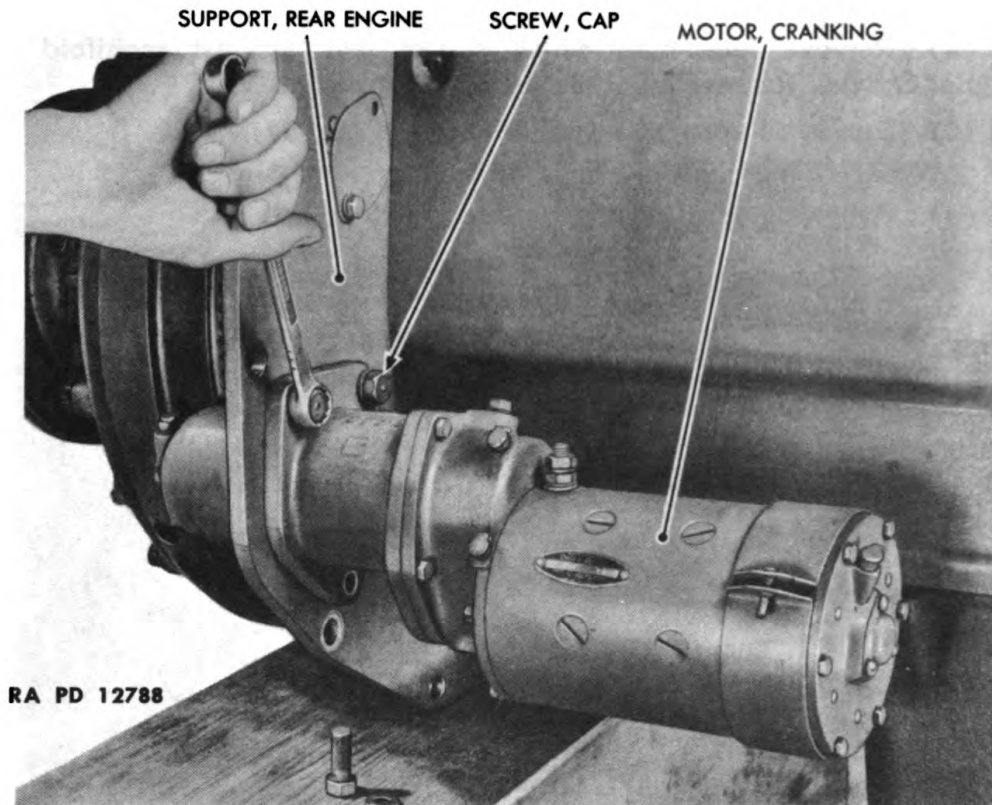

Figure 23—Cranking Motor Removal
41. CRANKING MOTOR REMOVAL (fig. 23).